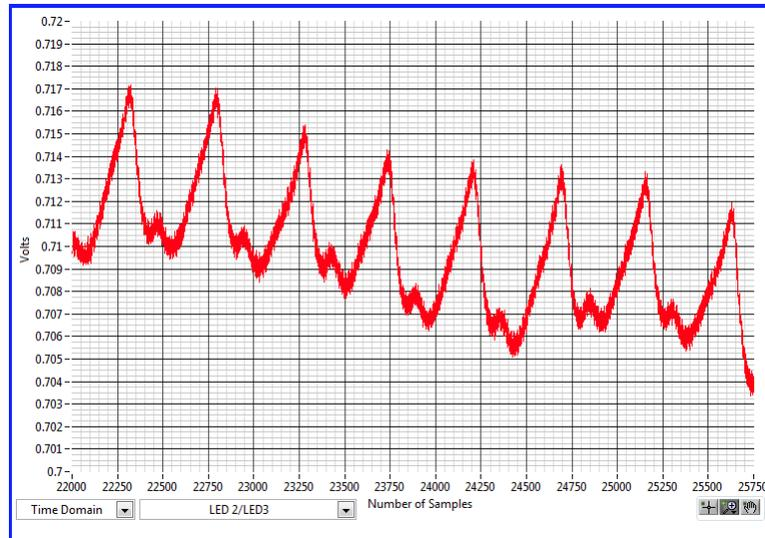

Figure 46. Sample Waveform of Green LED Captured on the Wrist with OSRAM SFH7050
- (c) Click the **Capture** button to begin capturing data. Figure 46 shows a sample waveform: